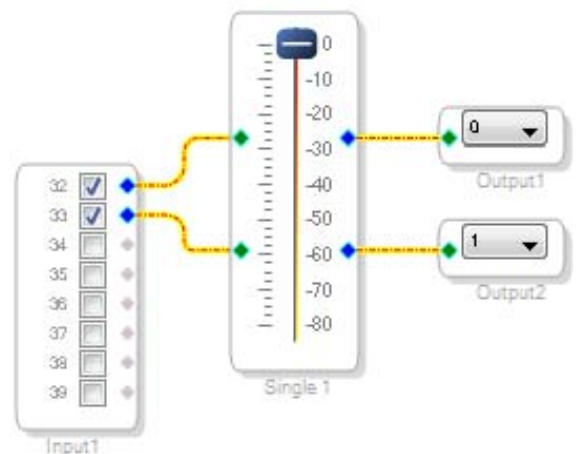

Figure 28. Completed Signal Flow with Volume Control
4. Connect the blocks as shown in Figure 28.